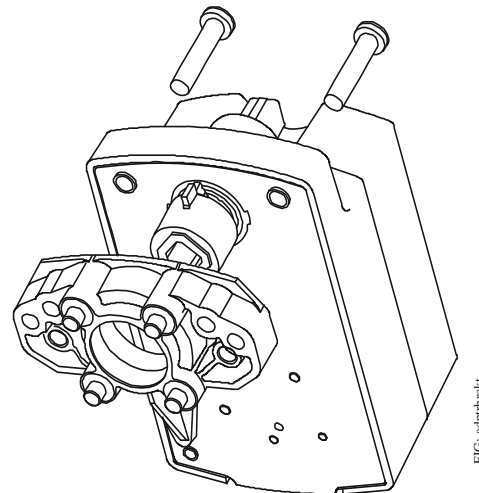

Figure 8: Installing the Adapter Bracket
6. Attach the linkage adapter bracket to the bottom plate of the actuator with the two 10-24 thread-forming screws (Figure 8). Hand-tighten the screws using a T-20 TORX driver or a 1/4 in. flat blade screw driver. Recommended torque is 13.5 to 16.5 lb-in (1.5 to 1.9 N-m).